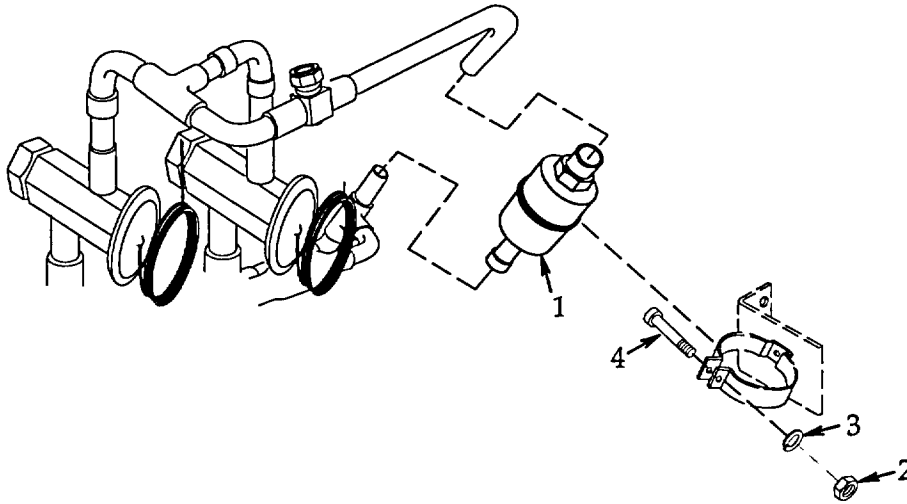

Figure 5-12. Filter-Drier
a. **Removal.** See figure 5-12.
- b. **Installation.** See figure 5-12.